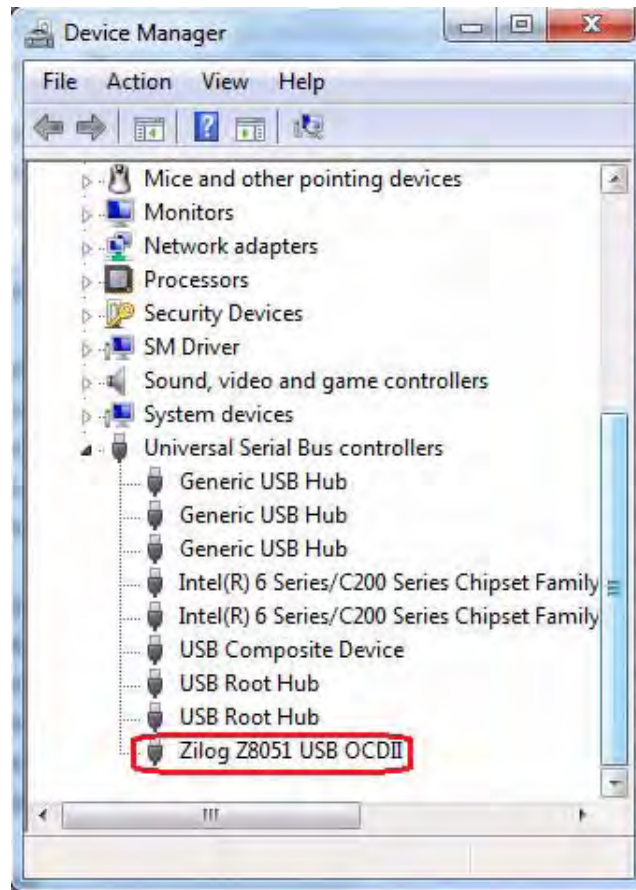

Figure 10. The Device Manager Dialog for the OCDII Installation
- b. If *Zilog Z8051 USB OCDII* appears in the Device Manager when using the OCDII debug tool, as indicated in Figure 10.